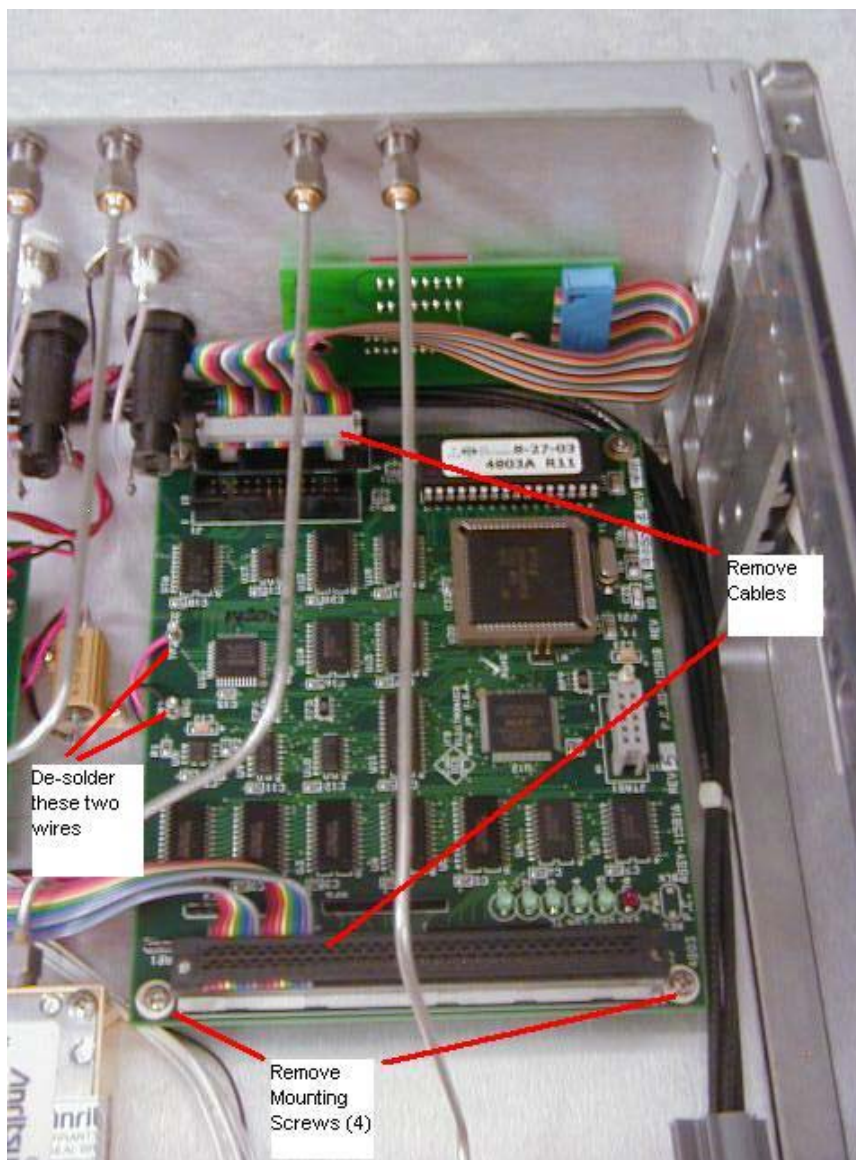

Figure 5-3. GPIB-Parallel Interface PCB Removal
2. Disconnect the two cables from the connectors as shown in Figure 5-3.
2. Disconnect the ribbon cable from the GPIB-Parallel Interface PCB Assembly. Refer to Figure 5-3.